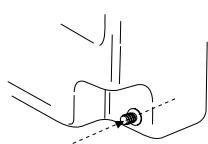

Fig. 2
- 2) Make a hole on the inside of the canister spout. We recommend using a drill with a fine bit Fig. 2.